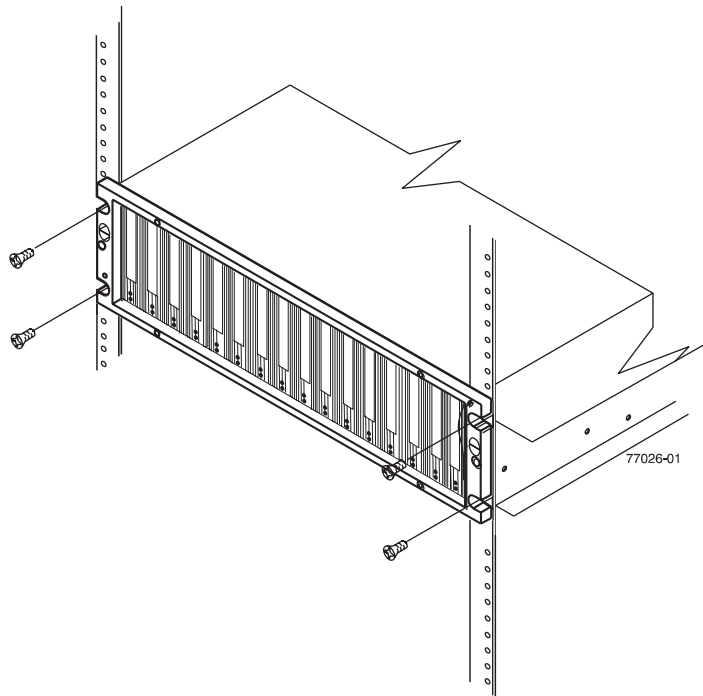

Figure 18. Securing the DS4200 Express to the rack cabinet
4. Secure the storage subsystem. Figure 18 on page 38 shows how to secure the storage subsystem to the rack.
- c. Secure the front of the DS4200 Express using the four M5 screws as shown in Figure 18 on page 38.